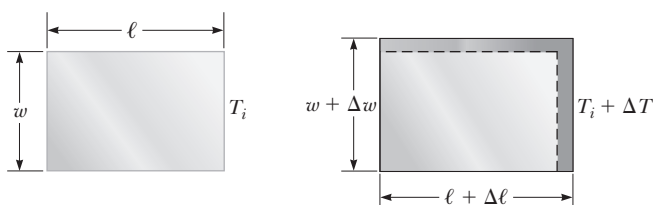

Figure P19.61
- 61.** The rectangular plate shown in Figure P19.61 has an area  $A_i$  equal to  $\ell w$ . If the temperature increases by  $\Delta T$ ,